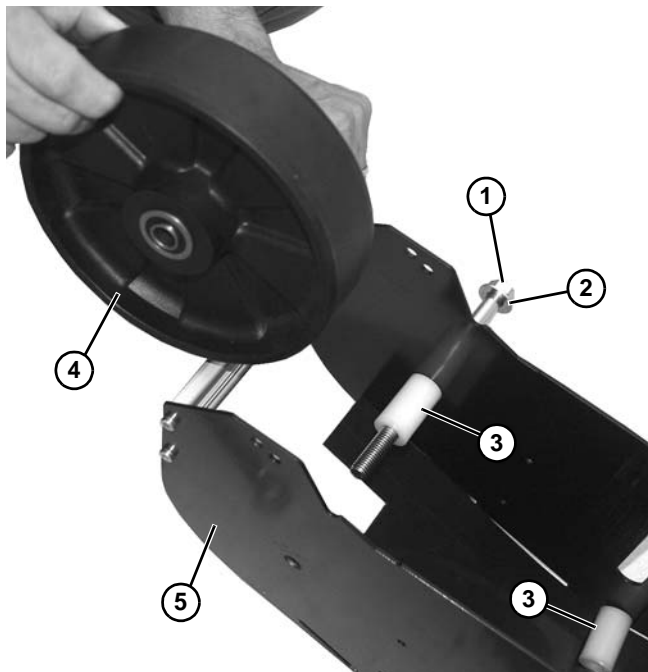

Figure 152
4. Remove bolt (**Figure 152, item 1**), washer (**Figure 152, item 2**), two spacers (**Figure 152, item 3**), and wheel (**Figure 152, item 4**) from take up assembly housing (**Figure 152, item 5**).